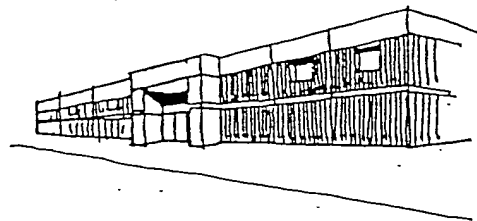

Figure 28
- ☐ *Emphasize building entries with projections, towers, recesses and/or special materials (Figure 28).*